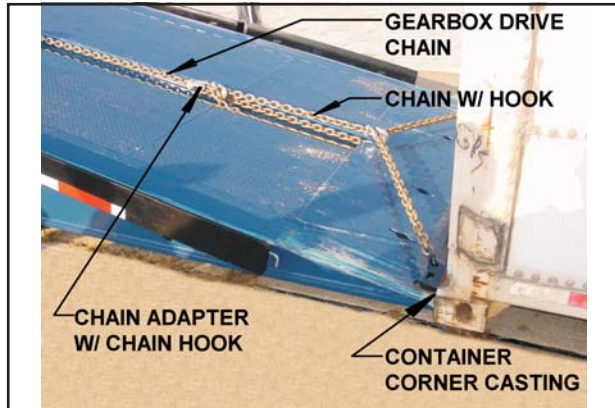

Figure 3-5 Chain Connections
- c. Connect the container chain harnesses provided with trailer to the container corner castings (See Figure 3-5).
- e. The chain with hook can now be removed and the container chain harness connected directly to chain adapter with chain hook. This will allow the container to be pulled on farther (See Figure 3-5).